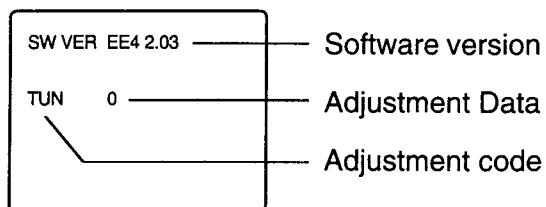

fig. 2.1B Options adjustment display
2. Press the "*" button to select either the VCJ or OPTION adjustment display (figs. 2.1B and C).